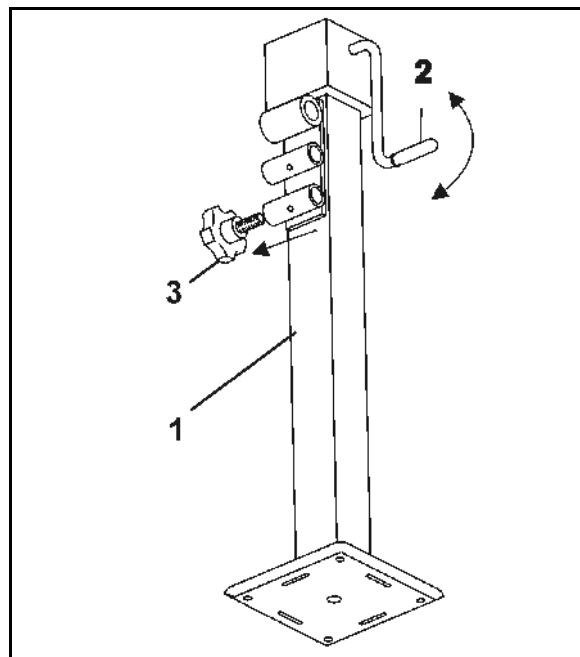

Fig. 28
- Raise the stand (Fig. 28/1):**
1. Use the crank handle (Fig. 28/2) to raise the stand.
2. Pull out the pin (Fig. 28/3).
Lower the stand (Fig. 28/1):
1. Pull out the pin (Fig. 28/3).
3. Use the crank handle (Fig. 28/2) to lower the stand.